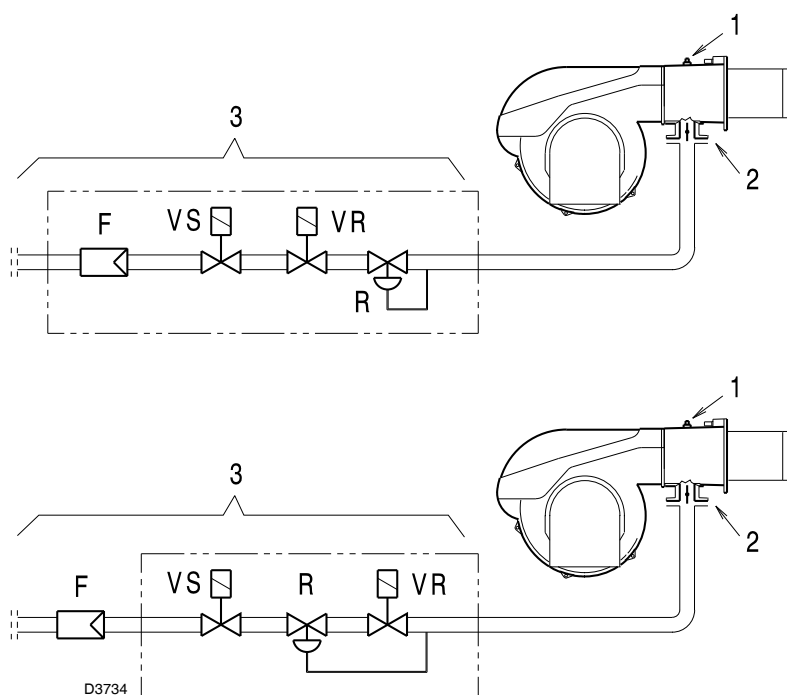

Fig. 40
Gas pressure measured at the test point 1)(Fig. 40), with:
Load loss at gas butterfly valve 2)(Fig. 40) with maximum opening: 90°.
Load loss at train 3)(Fig. 40) including:
- Subtract the combustion chamber pressure from the gas pressure measured at test point 1)(Fig. 40).
To know the required gas pressure at test point 1)(Fig. 40), set the MAX output required from the burner operation:
- Read, on the right, column 1, the socket pressure 1)(Fig. 40).
pressure required at test point 1)(Fig. 40).